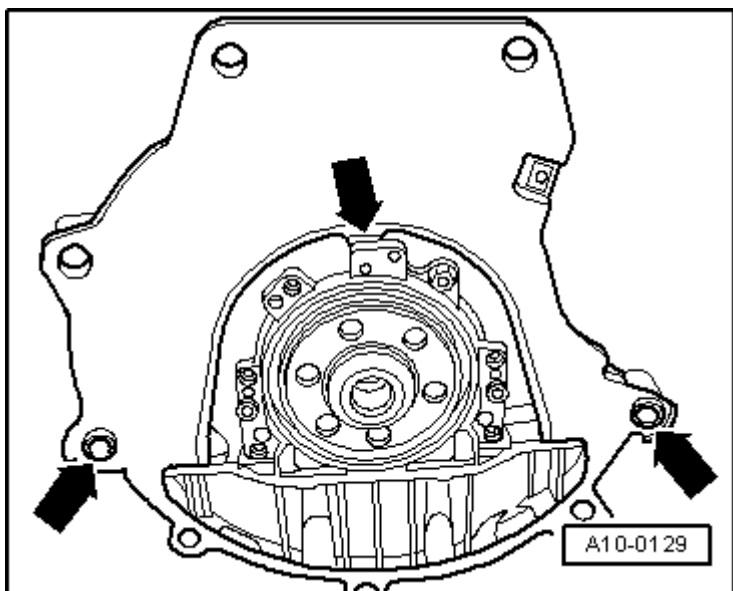

Fig. 11: Identifying Intermediate Plate Alignment Bushings
- Is hooked in at the sealing flange, refer to **Fig. 11**.